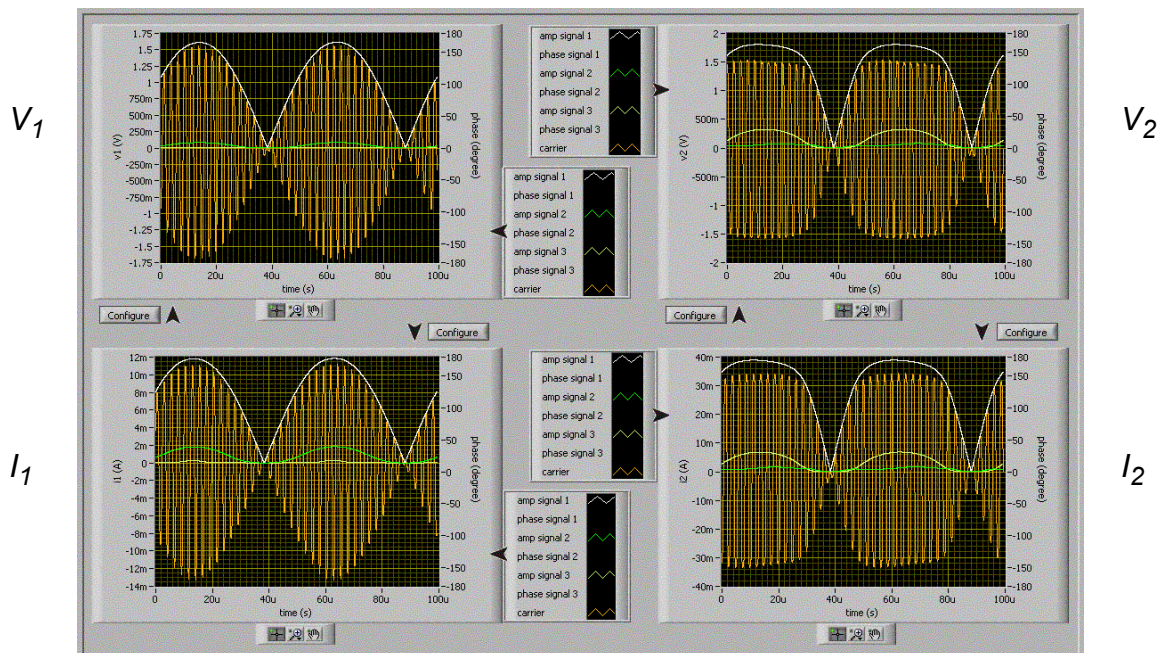

Figure 7. Frequency - time representation of voltage / current at input and output
- Large-signal measurements in uncalibrated and calibrated mode (figure 7)
- Displaying the measurements in different ways (figure 7)